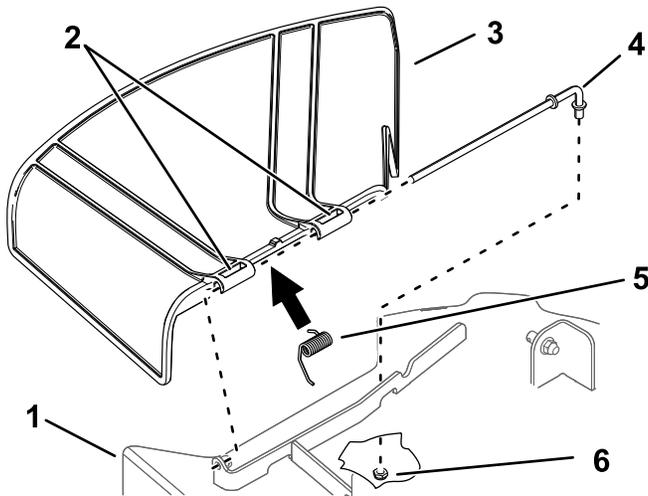

Figure 69
- Remove the nut (3/8 inch) from the rod under the mower (Figure 69).
- Slide the rod out of the deck bracket, spring, and grass deflector (Figure 69).
- Install the new grass deflector (Figure 69).
- Slide the rod through the second grass-deflector pivot (Figure 69).
- Secure the rear end of the rod into the mower with a nut (3/8 inch) as shown in Figure 69.